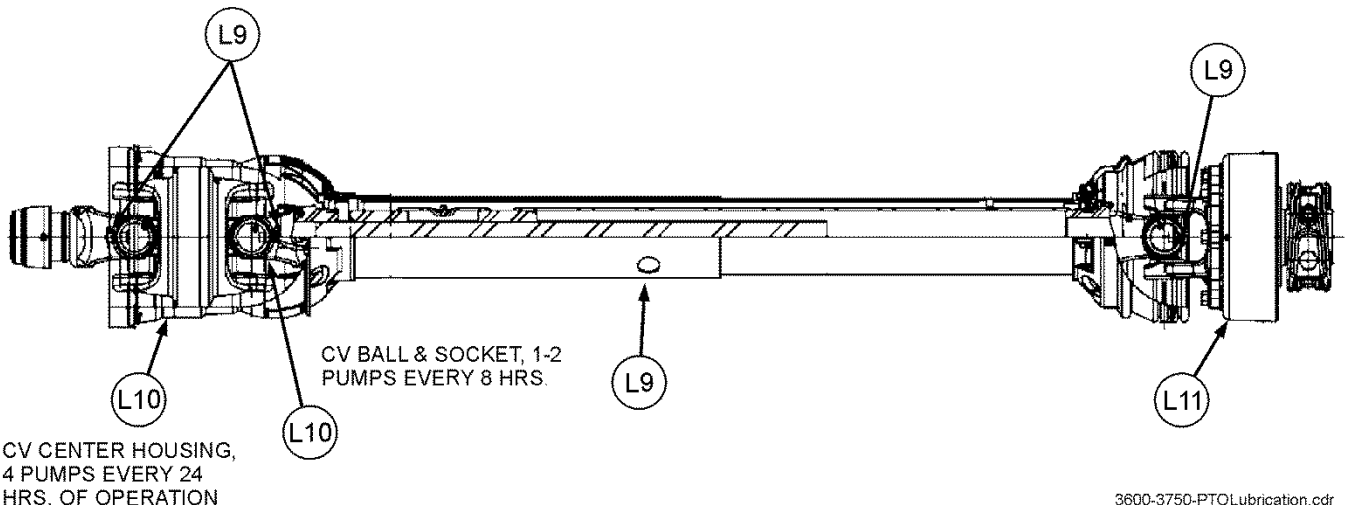

FIGURE 15. PTO LUBRICATION
(See figure 15)
- (L9) Grease cross bearings on yoke (both ends of PTO shaft) 1 pump every 8 hrs. Grease telescoping shaft through slot in center of guard, 4-5 pumps every 8 hrs. Figure 15.
- (L11) Grease the over running clutch 3-4 pumps every 8 hours. Figure 15.